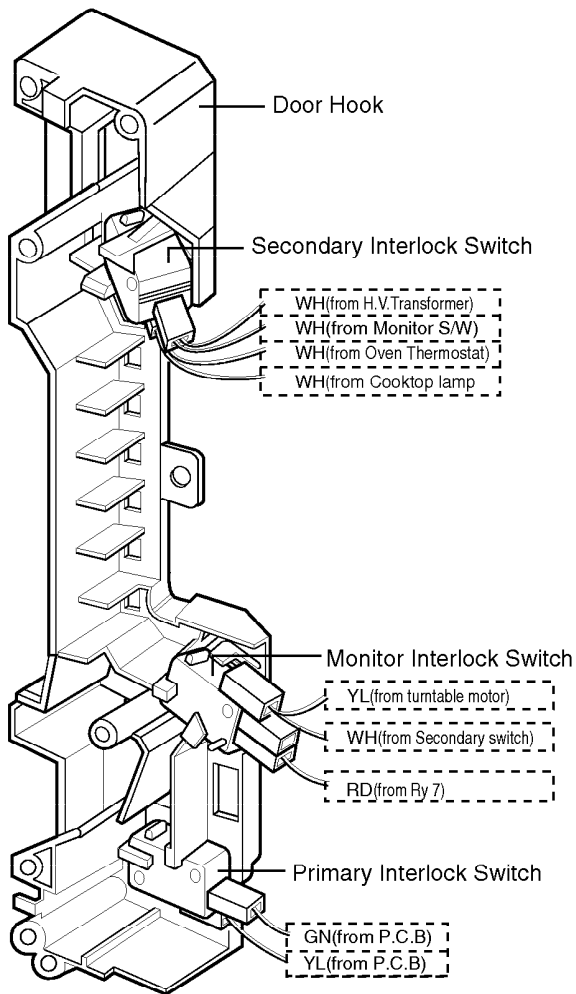

Figure 9
C. REMOVING THE DOOR INTERLOCK SWITCHES (Figures 9,10)
- (1) Disconnect the wire leads from the interlock switches.
- (2) Remove two screws securing the Door Hook.
- (3) Make necessary replacements and check microwave energy leakage according to "ADJUSTMENT PROCEDURE" on page 7-12.